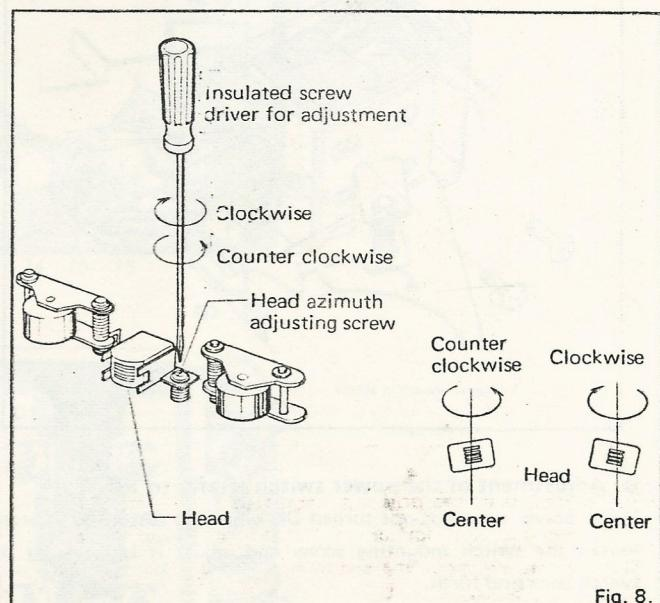

Fig. 8.
* Adjustment of the head azimuth (Refer to Fig. 8)